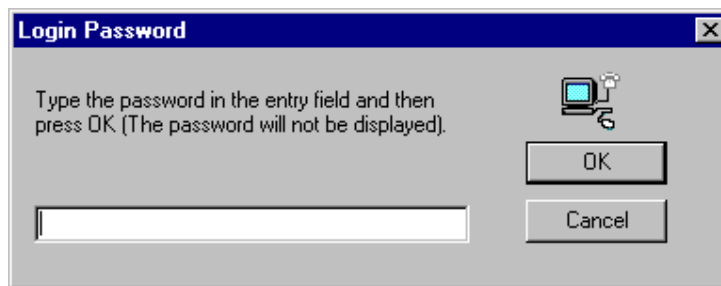

Figure 3-10. Login Password Screen
- Enter the default password **22222** unless the password has already been changed. If the password has been changed, enter the new password. Refer to Figure 3-10, “Login Password Screen”.